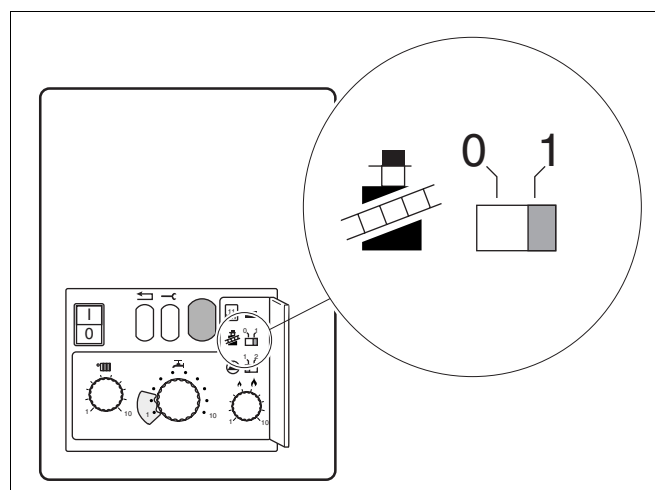

fig. 52 Chimney sweep switch
- Set chimney sweep switch (fig. 52) to “1”.